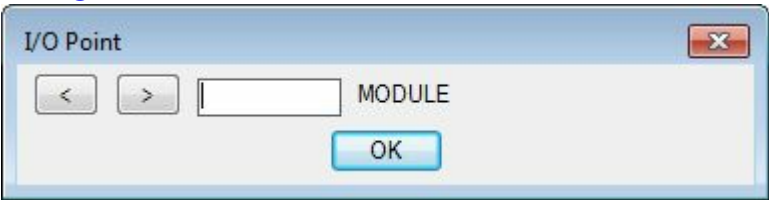

Figure-5. I/O Point dialog box
- Click on the **OK** button from the dialog box. The **I/O Point** dialog box will be displayed; refer to Figure-5.